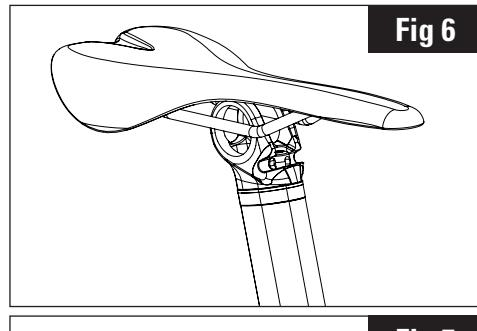

Fig 6
1. Grease the screws (7)
2. Position the Monolink® saddle on the E-Post 2 EVO (Fig.6)